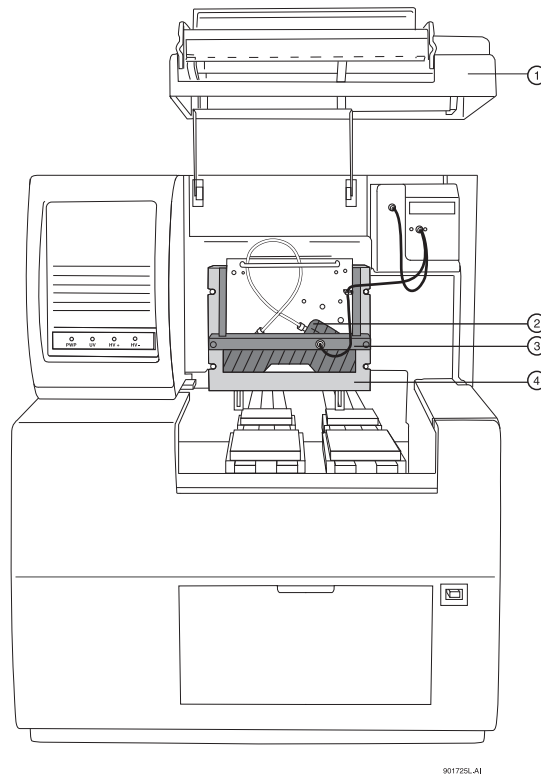

Figure 3.8 Cartridge Installation
1. Lift the cartridge cover door at the front of the P/ACE MDQ. Refer to Figure 3.8.